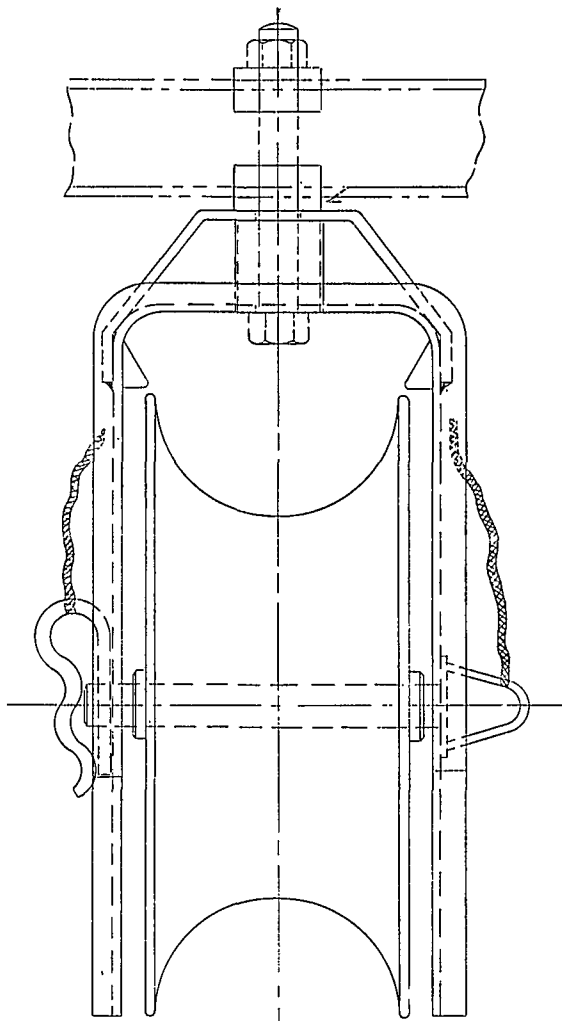

FIG.8 DET. 3, 12" SHEAVE MOUNTED TO UNDERSIDE OF FRAMING BARS. (PAR. 3.52)
3.52 Details 3 and 4 sheaves are arranged to mount vertically from existing auxiliary framing, pipe or temporary framing bars. An optional swivel hook is provided with the sheave for alternate means of fastening when auxiliary framing is not used. Figures 8 to 12 show typical mounting arrangements. Det. 4, 6" sheave is generally used as additional support for long runs.